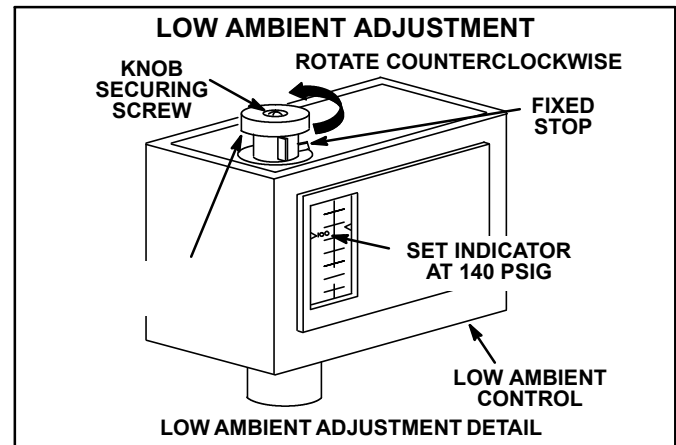

FIGURE 24
- 1- Loosen knob securing screw to allow knob stop to pass over fixed stop on control (see figure 24).